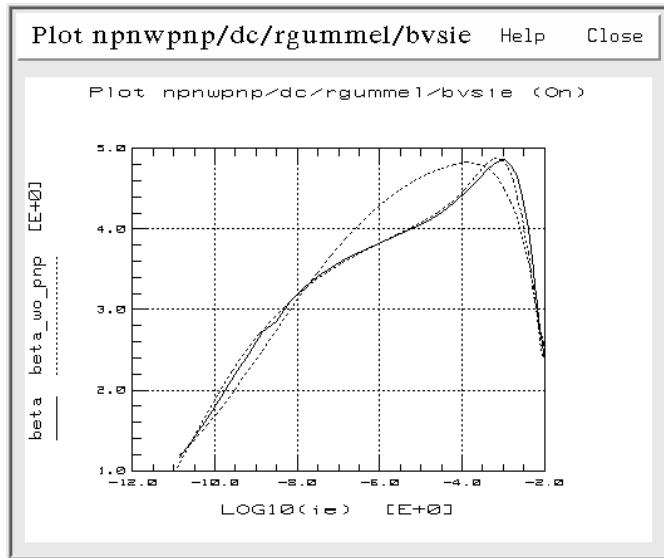

Figure 223 Reverse Beta versus i_e for Single NPN and Compound NPN-PNP Structure
The input stage contains transistors Q1 and Q2 connected as a differential amplifier, biased with a fixed current source (see Figure 223). Q1 and Q2 provide both differential mode (DM) and common mode (CM) characteristics. Passive components in the input stage provide slew rate effects (C_2 , C_e , R_{e1} , R_{e2}), 0dB frequency control (R_{c1} , R_{c2}), DM excess phase (C_1), and CM input resistance (R_1).